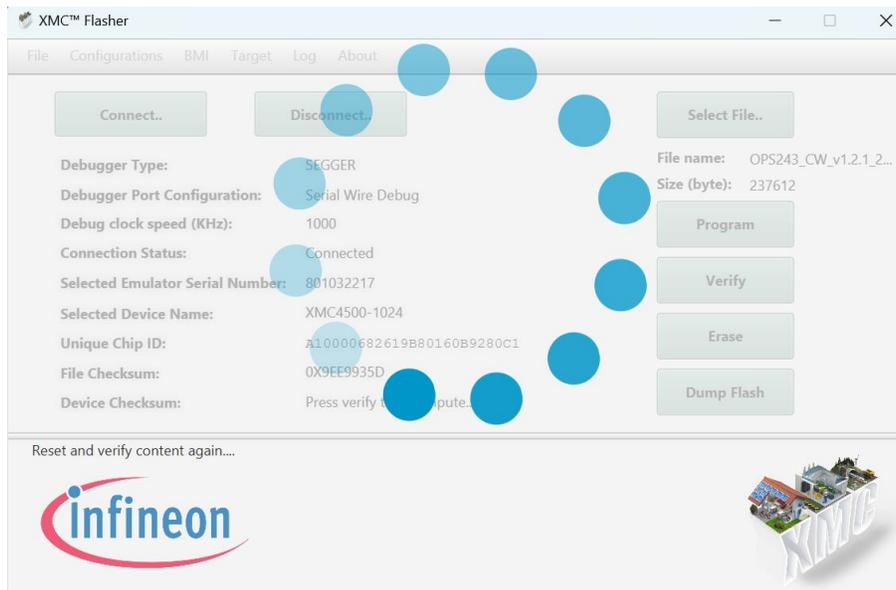

Figure 12. Sensor Flashing in Process
Step 9. Press Program to start the flashing process. A pop-up of rolling balls along with a status box will appear while the flashing in process (Figure 12). Typically, it only takes a few seconds to complete the flashing process. Do not press the Erase button. OmniPreSense saves factory settings in some sensors and pressing the Erase button will clear those out as well as any persistent memory settings which have been saved.